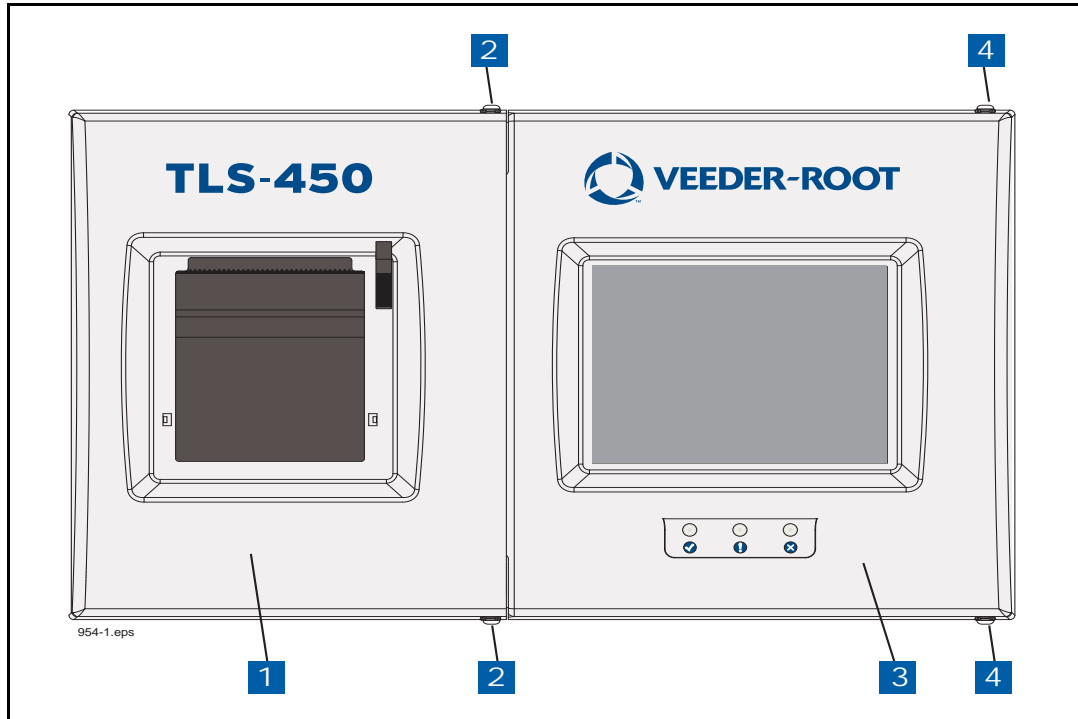

Figure 6. Front doors
- Figure 6. Front doors 8
2. Using a T-15 Torx driver, remove the two screws in the left door of the console (ref. item 2 in Figure 6).
2. Open both front doors of the console (see Figure 6).
LEGEND FOR NUMBERED BOXES IN Figure 6
2. Open the left (Printer) door of the console (see Figure 6).